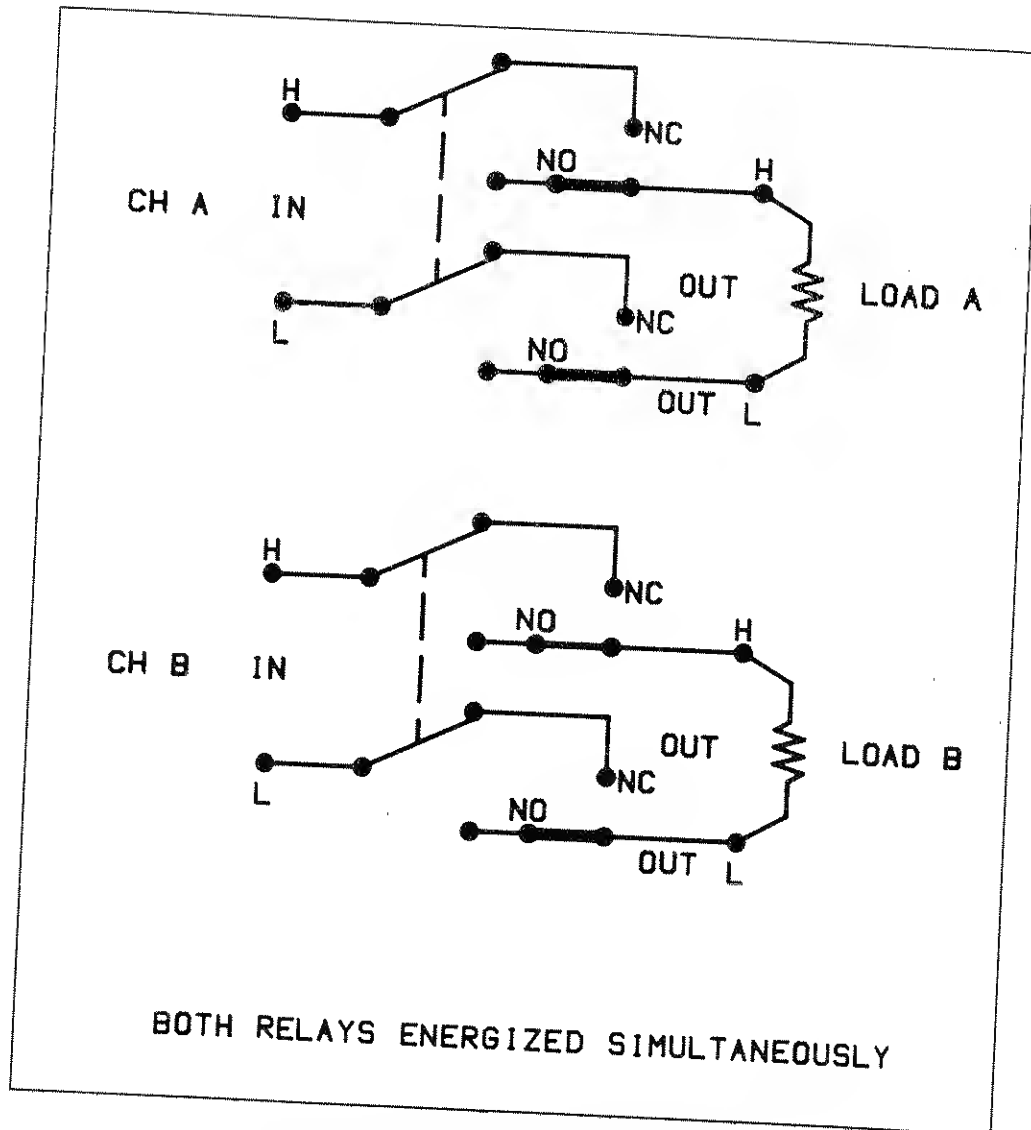

Figure 2-7. 4PST Configuration
**Four-Pole Configurations**—In this configuration, two relays are energized at the same time to control two separate circuits. Depending on how the relay jumpers are positioned, both loads, no loads or one load can be selected when the relays are energized. Figure 2-7 shows the 4PST-NO configuration with the relays normally open. Wire the relay card as follows: